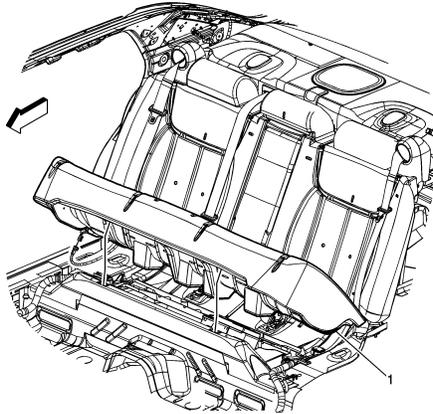

Fig. 1 Rear seat cushion removal
4. Remove rear seat cushion, Fig. 1.
7. Install rear seat cushion, Fig. 1.